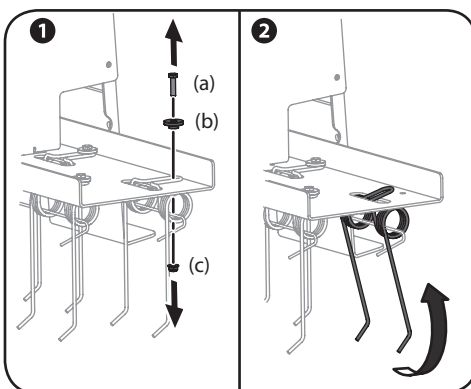

Figure 5-1
1. Remove the hex screw (a), shoulder spacer (b) and nut (c) securing the spring tine from the top of the tray. See 1 in Figure 5-1.
2. Rotate the spring tine forward. See 2 in Figure 5-1.